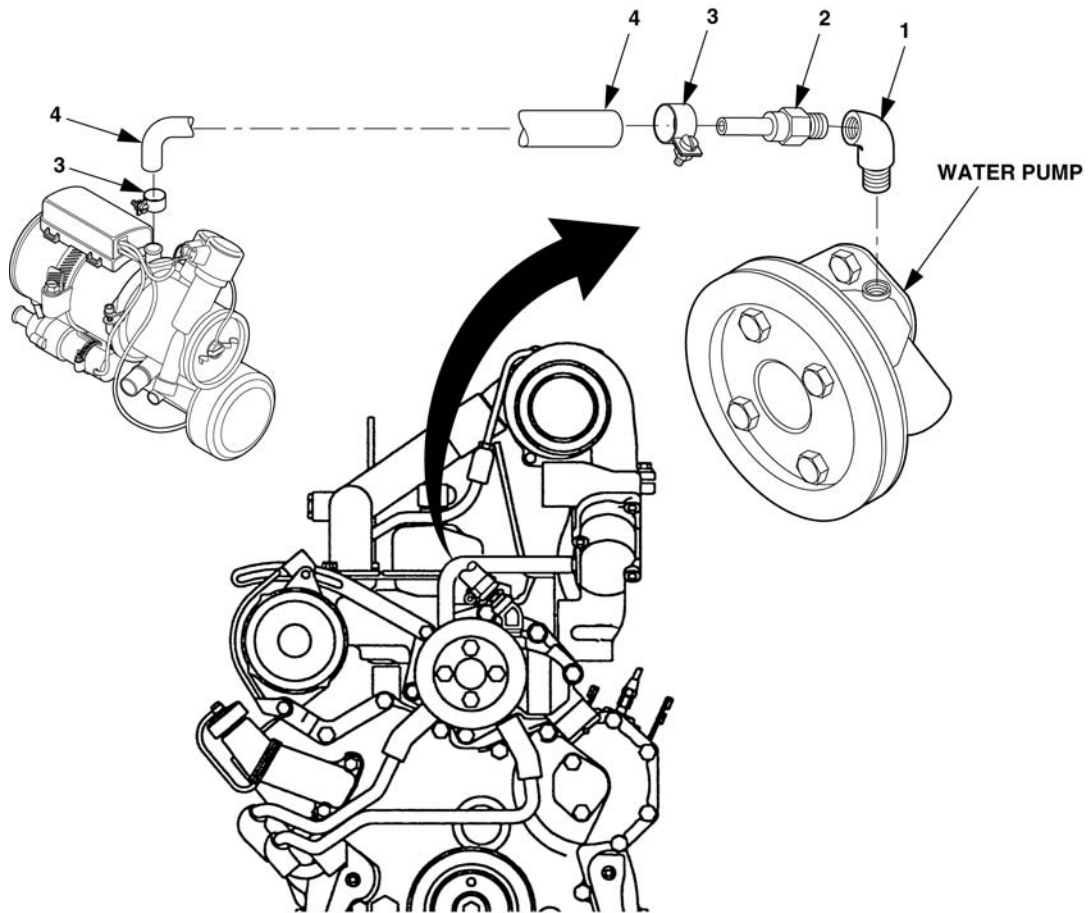

Figure 4-41. Coolant Outlet Hose Removal
10. Remove elbow 90° (1), Figure 4-41, standoff (2), clamps (3), and coolant hose (4) from water pump and heater assembly. Replace new plug in water pump.